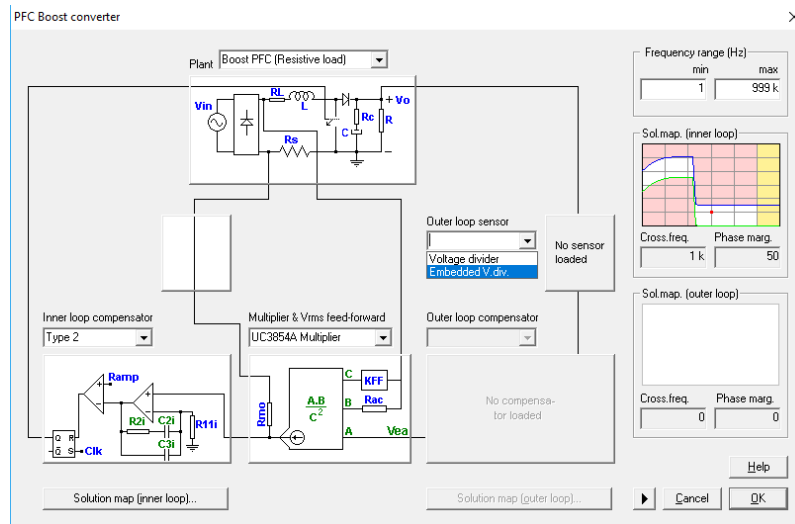

Figure 14: Outer loop sensor choice
1. Select the voltage sensor. In this particular example, the option which has been chosen is "Regulator embedded voltage divider". See Figure 14.